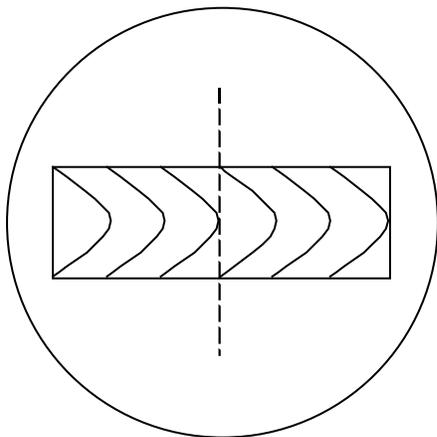

Figure 3
20. An optical flat was placed over a gauge block and illuminated with a sodium vapour lamp of wavelength $0.6\mu\text{m}$ resulting in a fringe pattern as shown in Figure 3 below left. Determine the height / depth at the centre of the gauge block vis a vis the long edges.